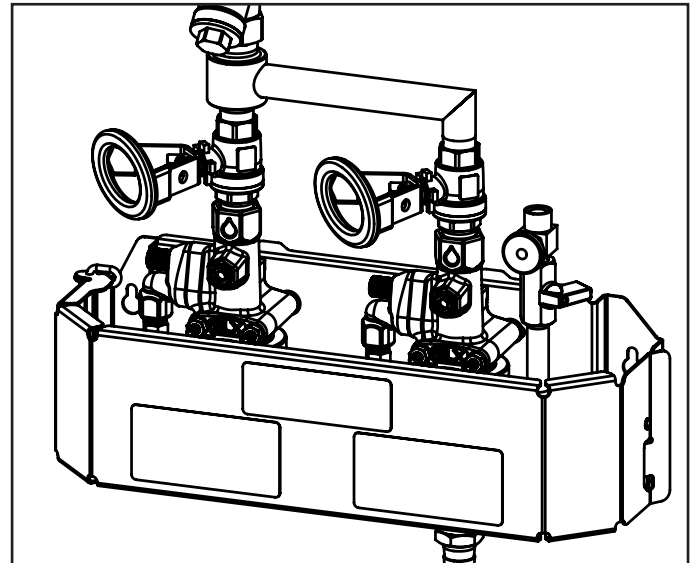

Fig. 7.1: Water and air supply ball valves closed.
1. Ensure systems are properly connected and the water and air supply [foamer only] valves are closed [Fig. 7.1]
1. Ensure system is properly connected and the water and air supply valves are closed [Fig. 7.1]